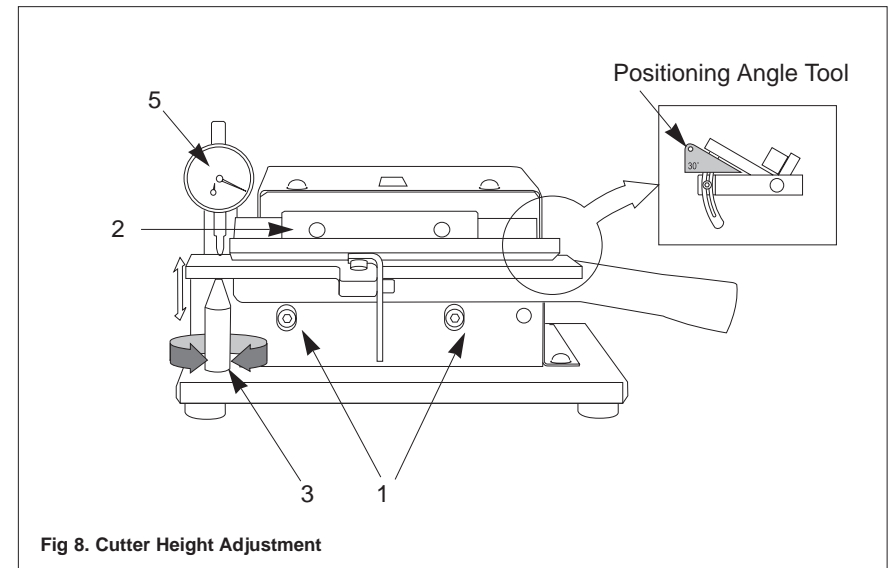

Fig 8. Cutter Height Adjustment
6. Position the tool between the the fixed base plate and the pivoted positioning table as in Fig 8, page 9.